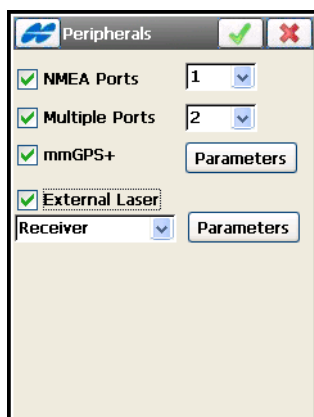

Figure 4-20. Rover Receiver Options
8. To use the *CSD* form of data transmission for receiving RTK corrections through a cellular phone used as a modem, select the *RTK protocol* option from the **Help Icon** menu in the upper left corner of the screen (Figure 4-20 on page 4-16).
If Multiple Ports are set for peripherals (see Figure 4-20 on page 4-16), depending on the number of ports selected, there can be up to two *Rover Radio* screens to configure radios for data input.
If NMEA Ports are set (see Figure 4-20 on page 4-16), depending on the number of output ports selected, there can be up to two *Config: Output Radio* screens to configure radios for NMEA data output.
2. Check and enable the *NMEA Ports* box on the **Peripherals** screen (Figure 4-20 on page 4-16) and select the number of ports for output of NMEA messages.
2. Check and enable the *External Laser* box on the **Peripherals** screen (Figure 4-20 on page 4-16) and select the device (either *Receiver* or *Controller*) the laser is connected to.